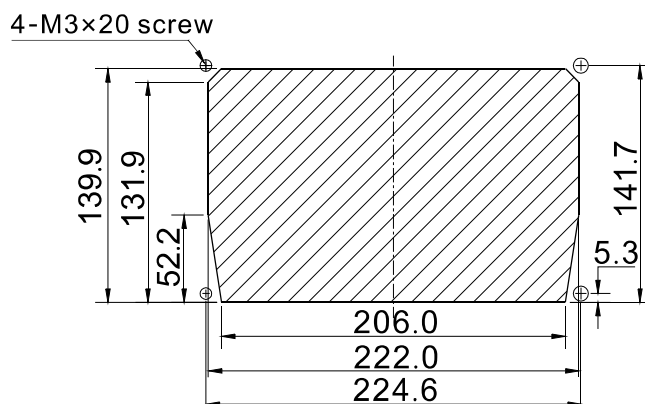

Figure 4.4 Dimensions of opening and fixing holes for flush mounting
1. Cut a rectangle opening. (Refer to Figure 4.4)
2. Loosen two (2) fixing bolts that fasten the display unit on to the mounting bracket.
3. Remove four (4) plastic screw covers, with are fitted on each corner of the display front face. (Pull up and out for easy removal.) Do not lose these screw covers.
4. Put the display on the opening and fix with four (4) tapping screws. In case you use M3 screws to fix the display, select an appropriate screw length that best suits fixing the unit to the panel thickness.
5. Refit the covers removed in step (3).